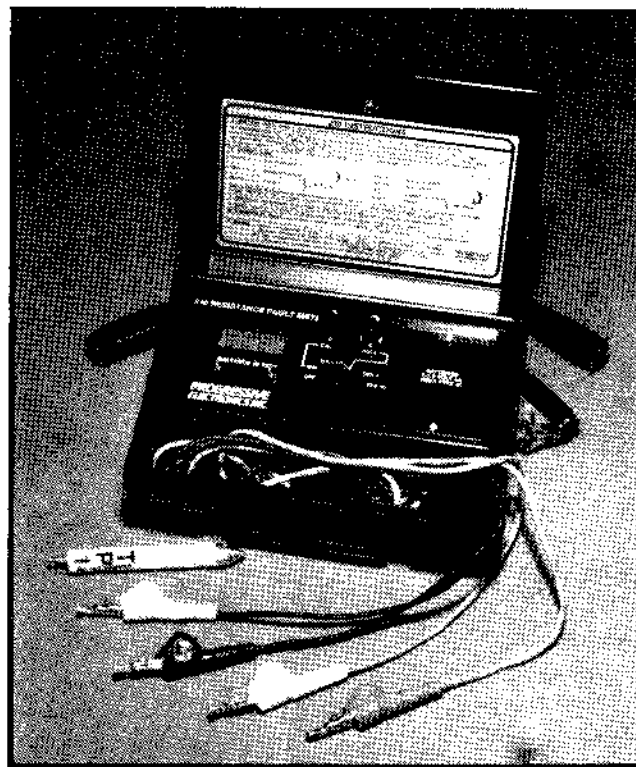

Figure 1 Model 210 Resistance Fault Meter
(A) This section provides information on the description and operation of the Progressive Electronics, Model 210, Resistance Fault Meter (Figure 1).